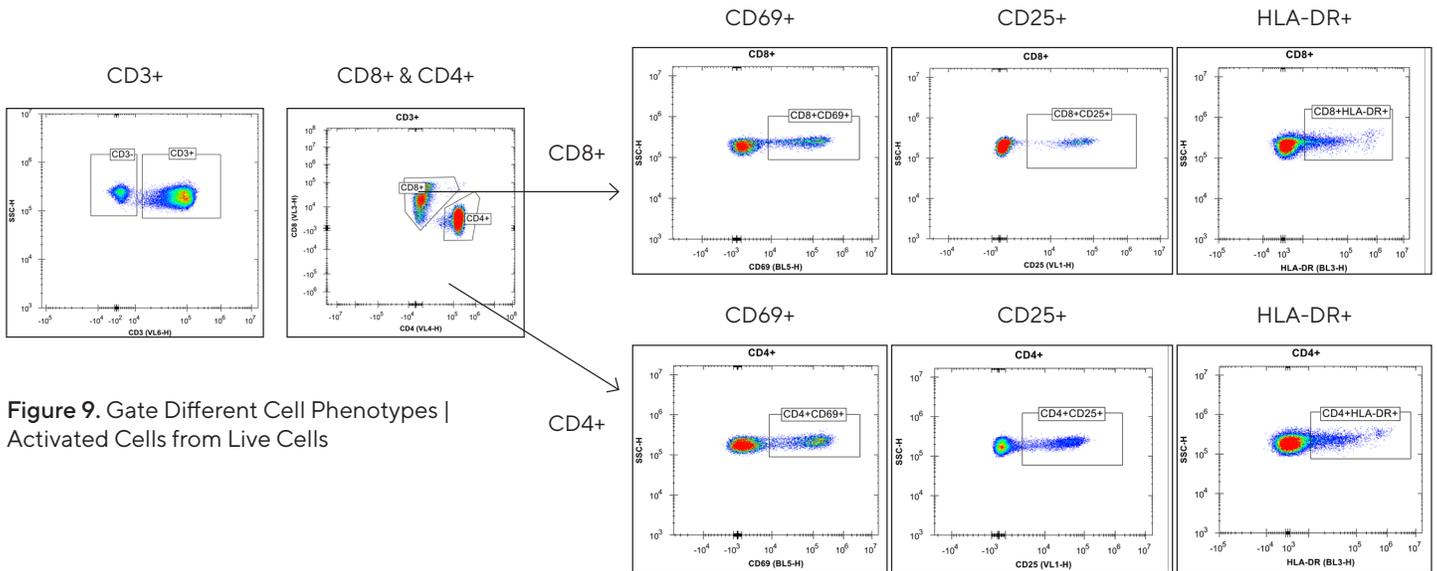

Figure 9. Gate Different Cell Phenotypes | Activated Cells from Live Cells
- 16.3.1 CD3+ cells → CD8+ & CD4+ cells (**Figure 9**).